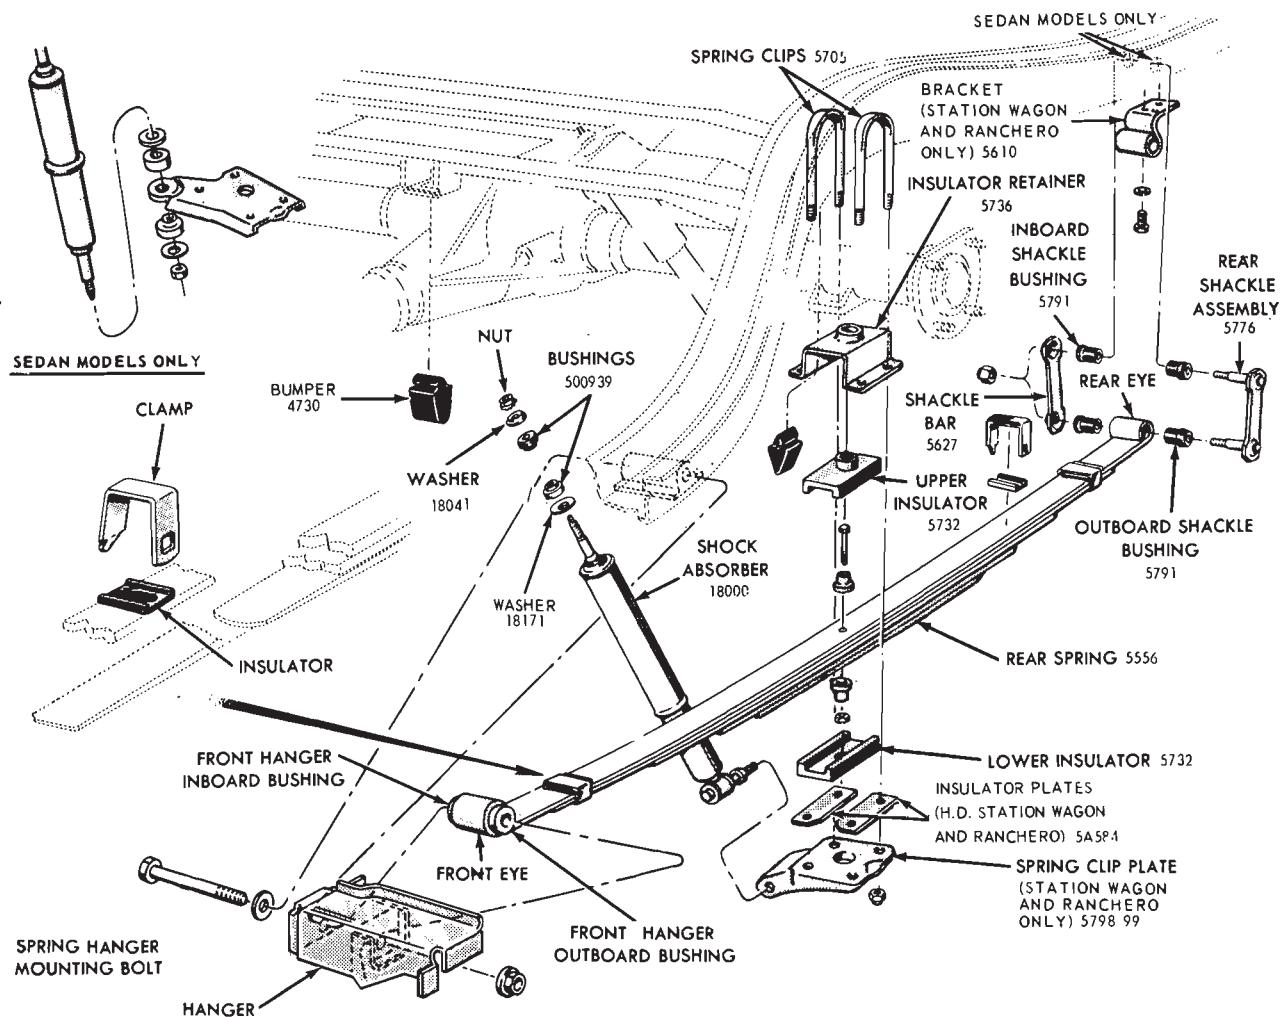

FIG. 9—Rear Spring and Shock Absorber—Typical
1. Disconnect the shock absorber from the spring plate (Fig. 9).
3. Raise the vehicle and remove the attaching nut, outer washer and bushing from the shock absorber at the spring plate (Fig. 9). Compress the shock absorber and remove it from the vehicle.
3. Connect the lower stud to the spring plate, and install the bushing, outer washer, and new nut on the stud (Fig. 9). Be sure the spring plate is free of burrs.